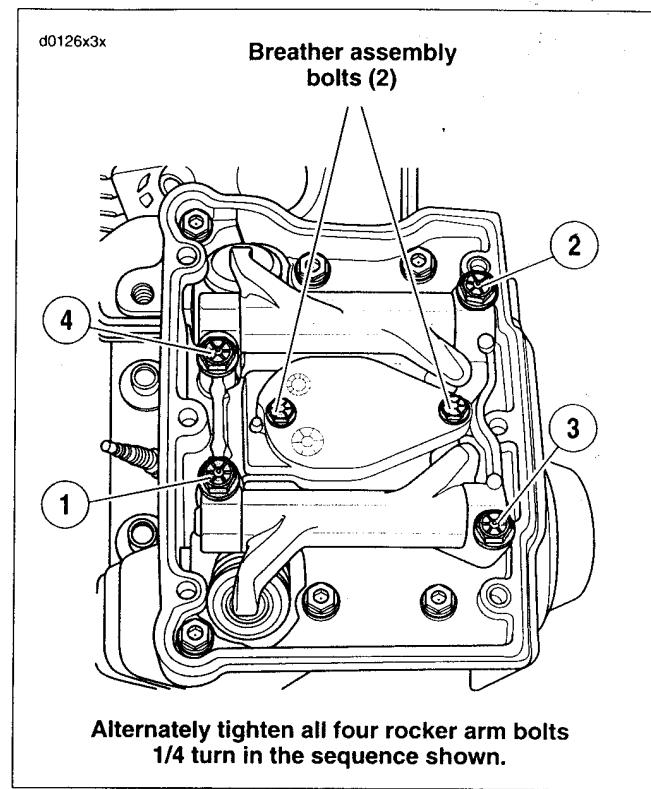

Figure 3-46. Rocker Arm Torque Sequence (Rear Cylinder Shown)
2. See Figure 3-46. Place the rocker arm support plate assembly into the rocker housing. Loosely install the four rocker arm support plate bolts with flat washers. Place two short bolts on the left side of the engine and two long bolts on the right. Loosely install the breather assembly bolts at this time
- See Figure 3-46. Alternately tighten the two bolts to secure breather cover and baffle assembly to 90-120 in-lbs (10.2-13.6 Nm).